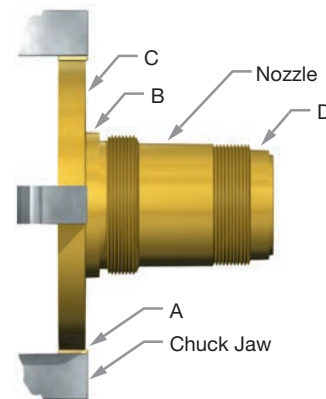

Figure 24: Nozzle Positioned in a Jaw
1. Remove the nozzle (2) from the valve to be remachined. If it cannot be removed from the base (1), re-machine it inside the base.
2. Set-up the lathe and nozzle (2) as follows:
- Grip the nozzle in a four-jaw independent chuck (or collet, if appropriate) using a piece of soft material such as copper or fiber between the jaws and the nozzle (see Figure 24).
- True-up the nozzle so that the surfaces marked B, C, and D run true within .001" (.025 mm) on the total indicator reading (see Figure 24).